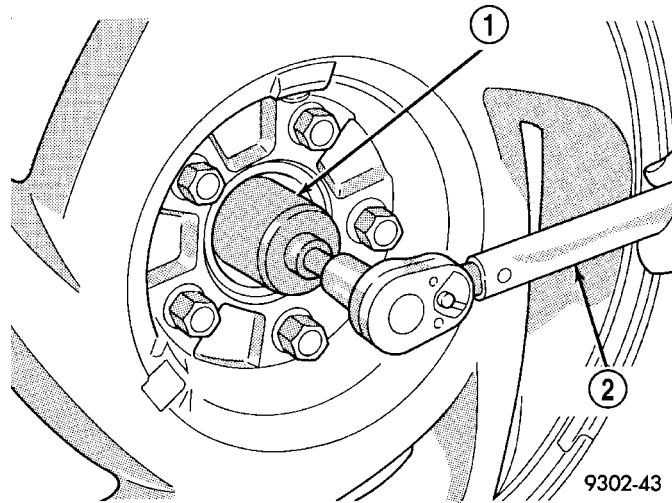

Fig. 20 Tighten Hub And Bearing Retaining Nut
(14) Apply the vehicle's brakes to keep vehicle from moving. Tighten the NEW stub shaft to hub and bearing assembly retaining nut to 142 N·m (105 ft. lbs.) (Fig. 20).